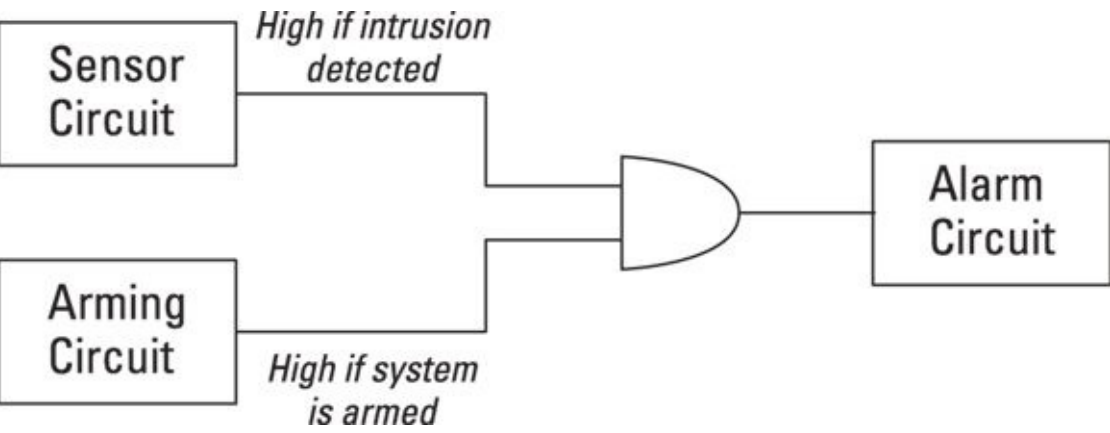

FIGURE 2-4: An AND gate used in a home alarm system.
- Figure 2-4 shows how AND gates might be used in a home alarm system. Here, the inputs for the various sensors placed on the home's doors and windows are processed by the sensor circuit, which sends a HIGH signal to one of the inputs of the AND gate if any of the sensors indicates an intrusion anywhere in the house. Then the arming circuit sends a 1 to the other input of the AND gate if the system is armed. Finally, the alarm circuit sounds an audible alarm if the AND gate's output is 1. As a result, the alarm will sound if an intrusion is detected and the system is armed.